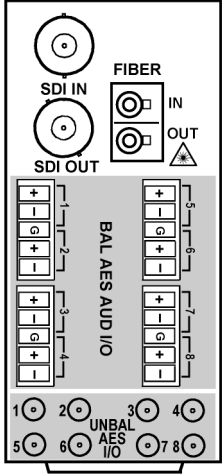

**Figure 2-1 Rear I/O Module Installation**
2. In the mounting area corresponding to the slot location, install Rear I/O Module as shown in Figure 2-1.